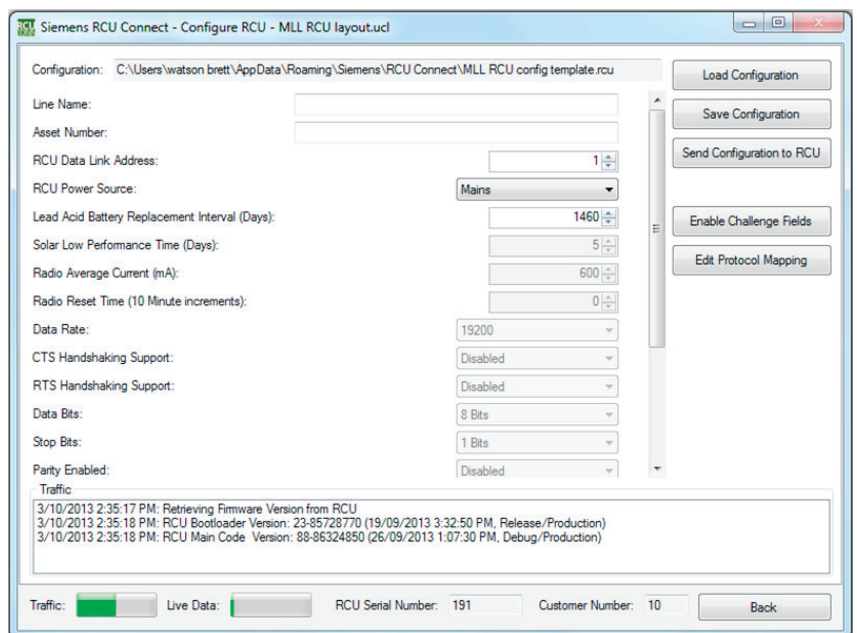

Figure 44: RCU Connect – configure RCU window
- Select a RCU from the list, RCU Connect will attempt to connect to the RCU. After a few seconds, if successful, the "Select an RCU" button will become enabled. The user can now click the "Select an RCU" button and RCU Connect will display the "Configure RCU" screen shown in Figure 44.
- When the "Configure RCU" menu is shown, the data in the fields has been retrieved from the configuration template selected, which is shown in the "Configuration" field at the top of the screen. The user should then modify each field to suit the specific RCU that is being configured for deployment. For example, if the RCU being configured has an asset number of "98/AB665", and an RCU data link address of "223", the user will enter the data as shown in Figure 44.